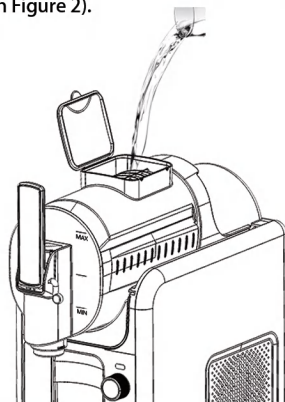
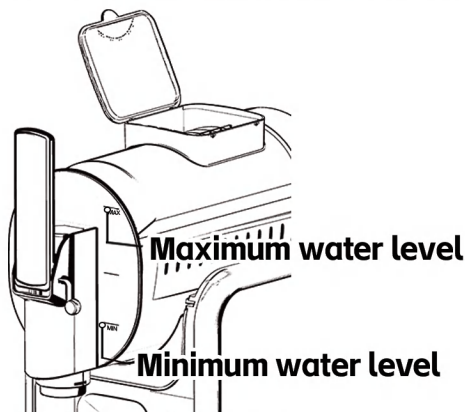

Figure 1
Figure 2
- ① Open the top cover of the slush bucket, then slowly pour the materials into the slush bucket (as shown in Figure 1) and cover the top cover. The liquid volume should be controlled between the minimum and maximum water levels (as shown in Figure 2).